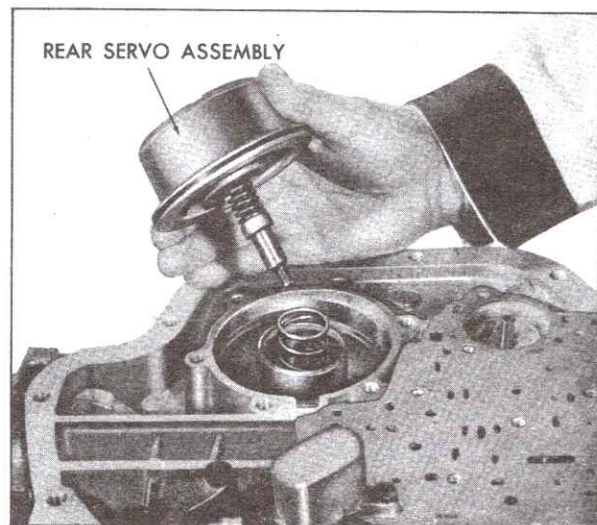

Fig. 7-36 Removing Rear Servo Assembly
2. Remove rear servo assembly from transmission case, Fig. 7-36.